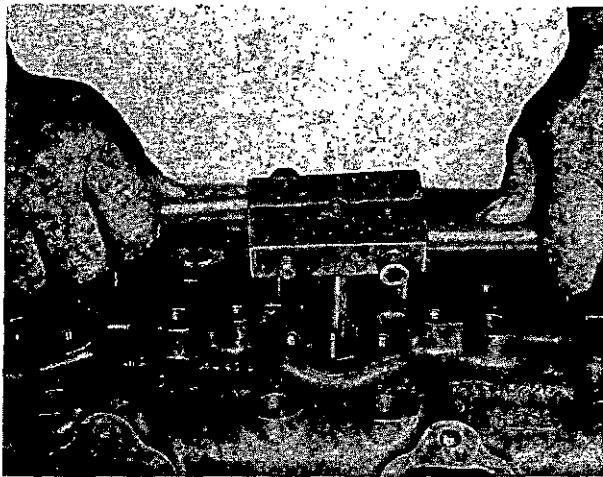

Fig. 11 Tapping the old sleeve
1. Using the tap GA.671, cut a thread in the sleeve bore (fig. 11) to a minimum depth of one inch (25 mm.).